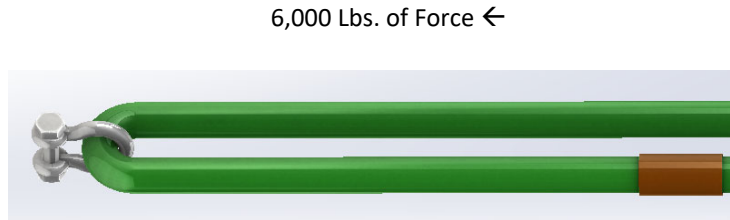

Figure 27
**Example:** A size 3 polyester roundsling, rated at 8,400 lbs. in a vertical hitch, is connected in a vertical hitch using the rounded bow end of a shackle that is smaller in size to that listed in Table 9. The shackle has a stock diameter of only .62 inch, and an inside opening width of 2 inches. However, a force of only 6,000 lbs. is applied, noticeably less than the rated capacity of the sling (See Figure 27).